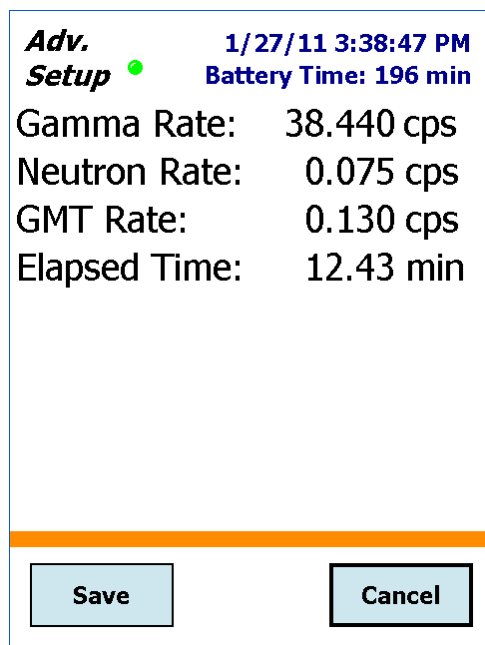

Figure 40. Collect Background for At Least the Specified Minimum Time.
- Tapping the **Run a Background** button, at the end of the manual calibration routine, opens the screen shown in Fig. 40 and automatically starts the background acquisition.